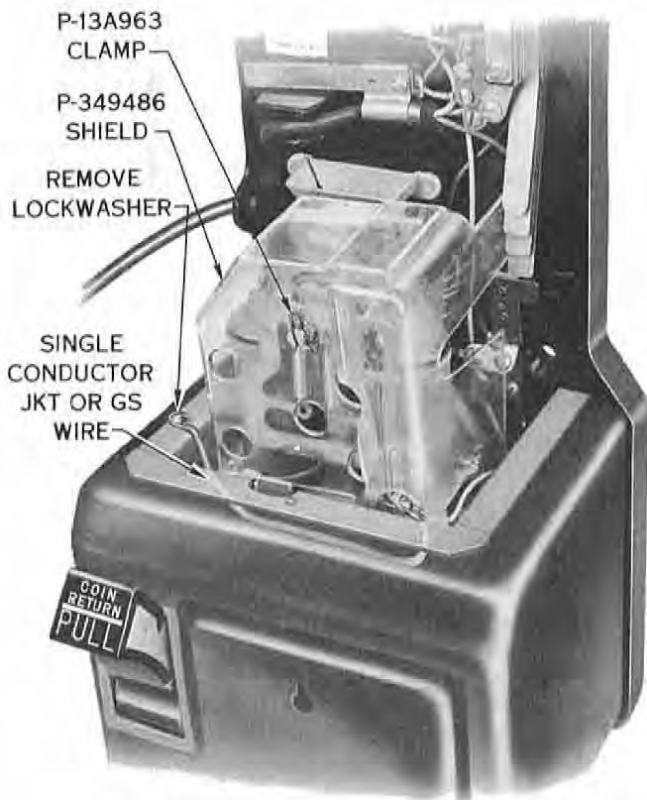

Fig. 6 — Method of Grounding Housing Assembly, Open-Type Installation
8.03 The P-349486 plastic shield is held in place with a P-13A963 clamp (furnished with shield). The clamp is placed over front pivot screw of coin relay (Fig. 6) and is not used on fiber shield.